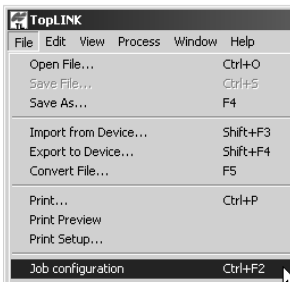

Figure 4-42. File->Job Configuration
1. Click **File->Job Configuration** (Figure 4-42).